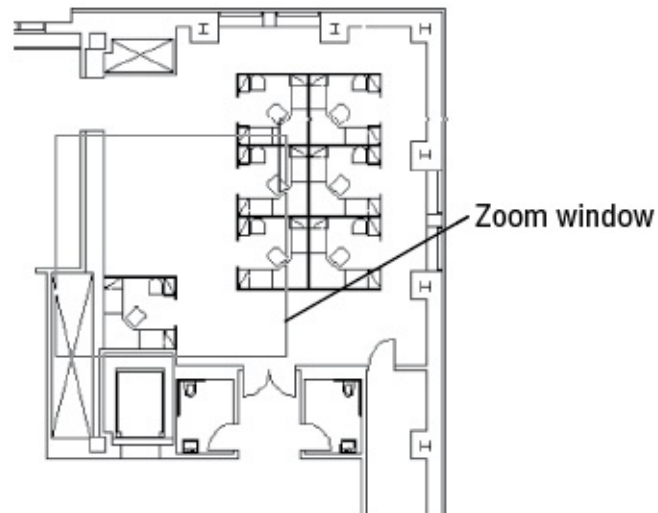

FIGURE 4.16 A workstation in an office plan
2. Use the Zoom command to enlarge just the view of the workstation, as shown in the first image in Figure 4.16.